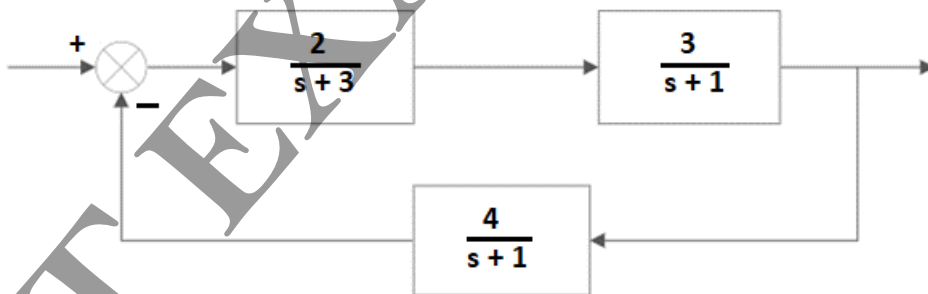

**Figure 2a**
a) Consider the system block diagram shown in Figure 2a.